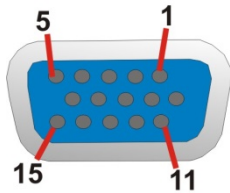

Figure 3-32: VGA Connector
- CN Pinouts:** See **Figure 3-32** and **Table 3-32**